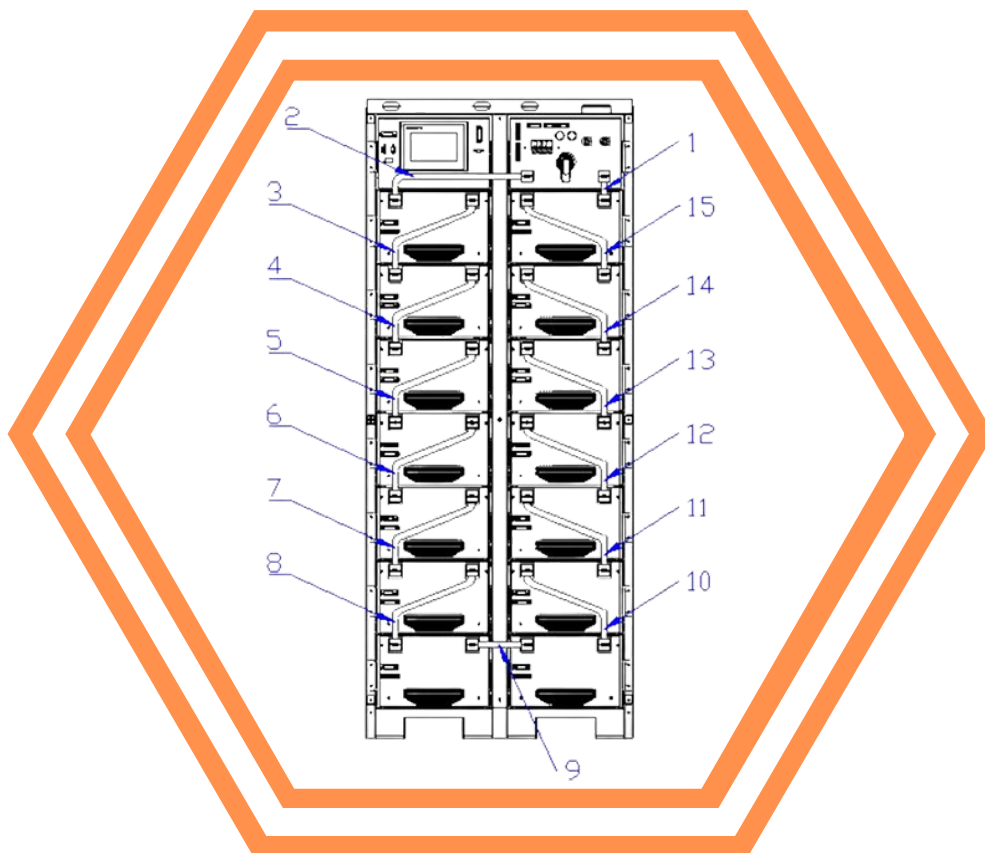

FIGURE 3
- The copper bars must be installed in the order of 1, 2, 3... (as shown as Figure 3)